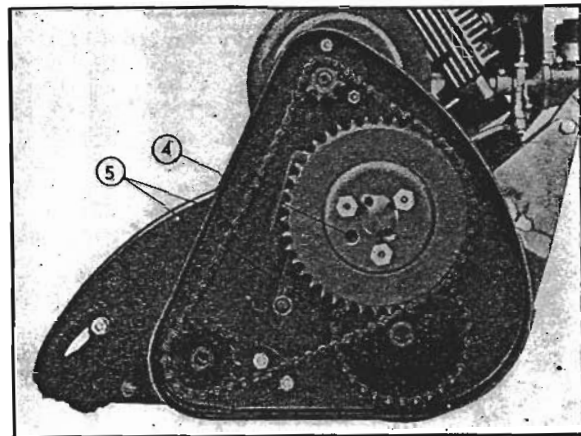

Fig. 11
4. Landroll Clutch through nipple in outer plate. (fig. 11)
5. Driving Chains. (fig. 11).